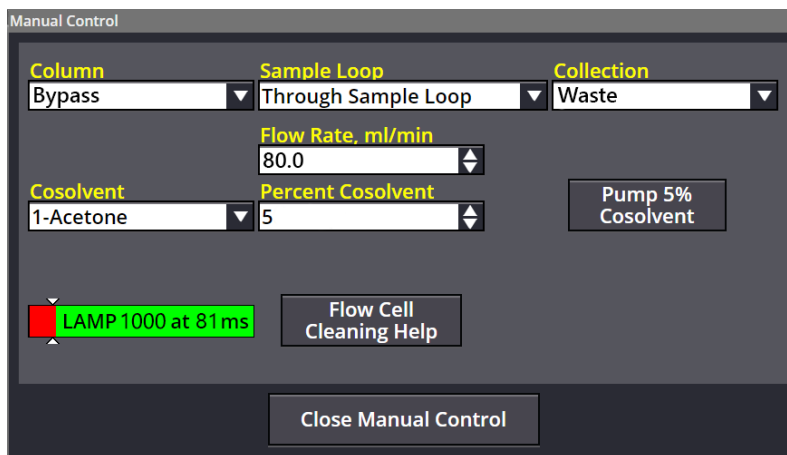

Figure 5-3 Manual Control Settings - Quick Cleaning
5. Make the following settings on the MANUAL CONTROL window (Figure 5-3):